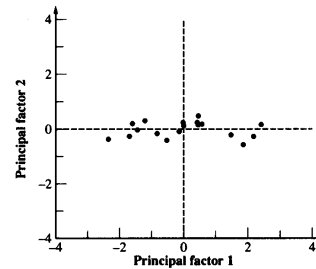

FIGURE 6.3 Packets sent and received data plotted along the principal-component axes.
10. Plot the values of principal factors. The results are shown in Figure 6.3. Notice that most of the variation is along the first principal factor. The variation along the second factor is negligible.